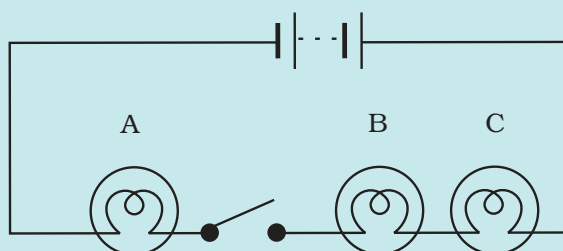

Fig. 14.25
13. In the circuit shown in Fig. 14.25